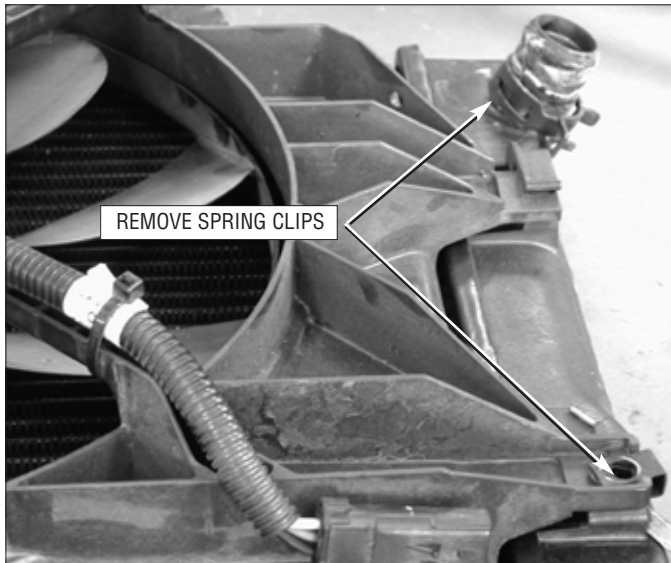

Fig. 8-1
- A. Install spacers between the fan and the shroud. Detach the fan from the support brace by removing the two mounting screws and popping the spring clips (see *Fig 8-1*).